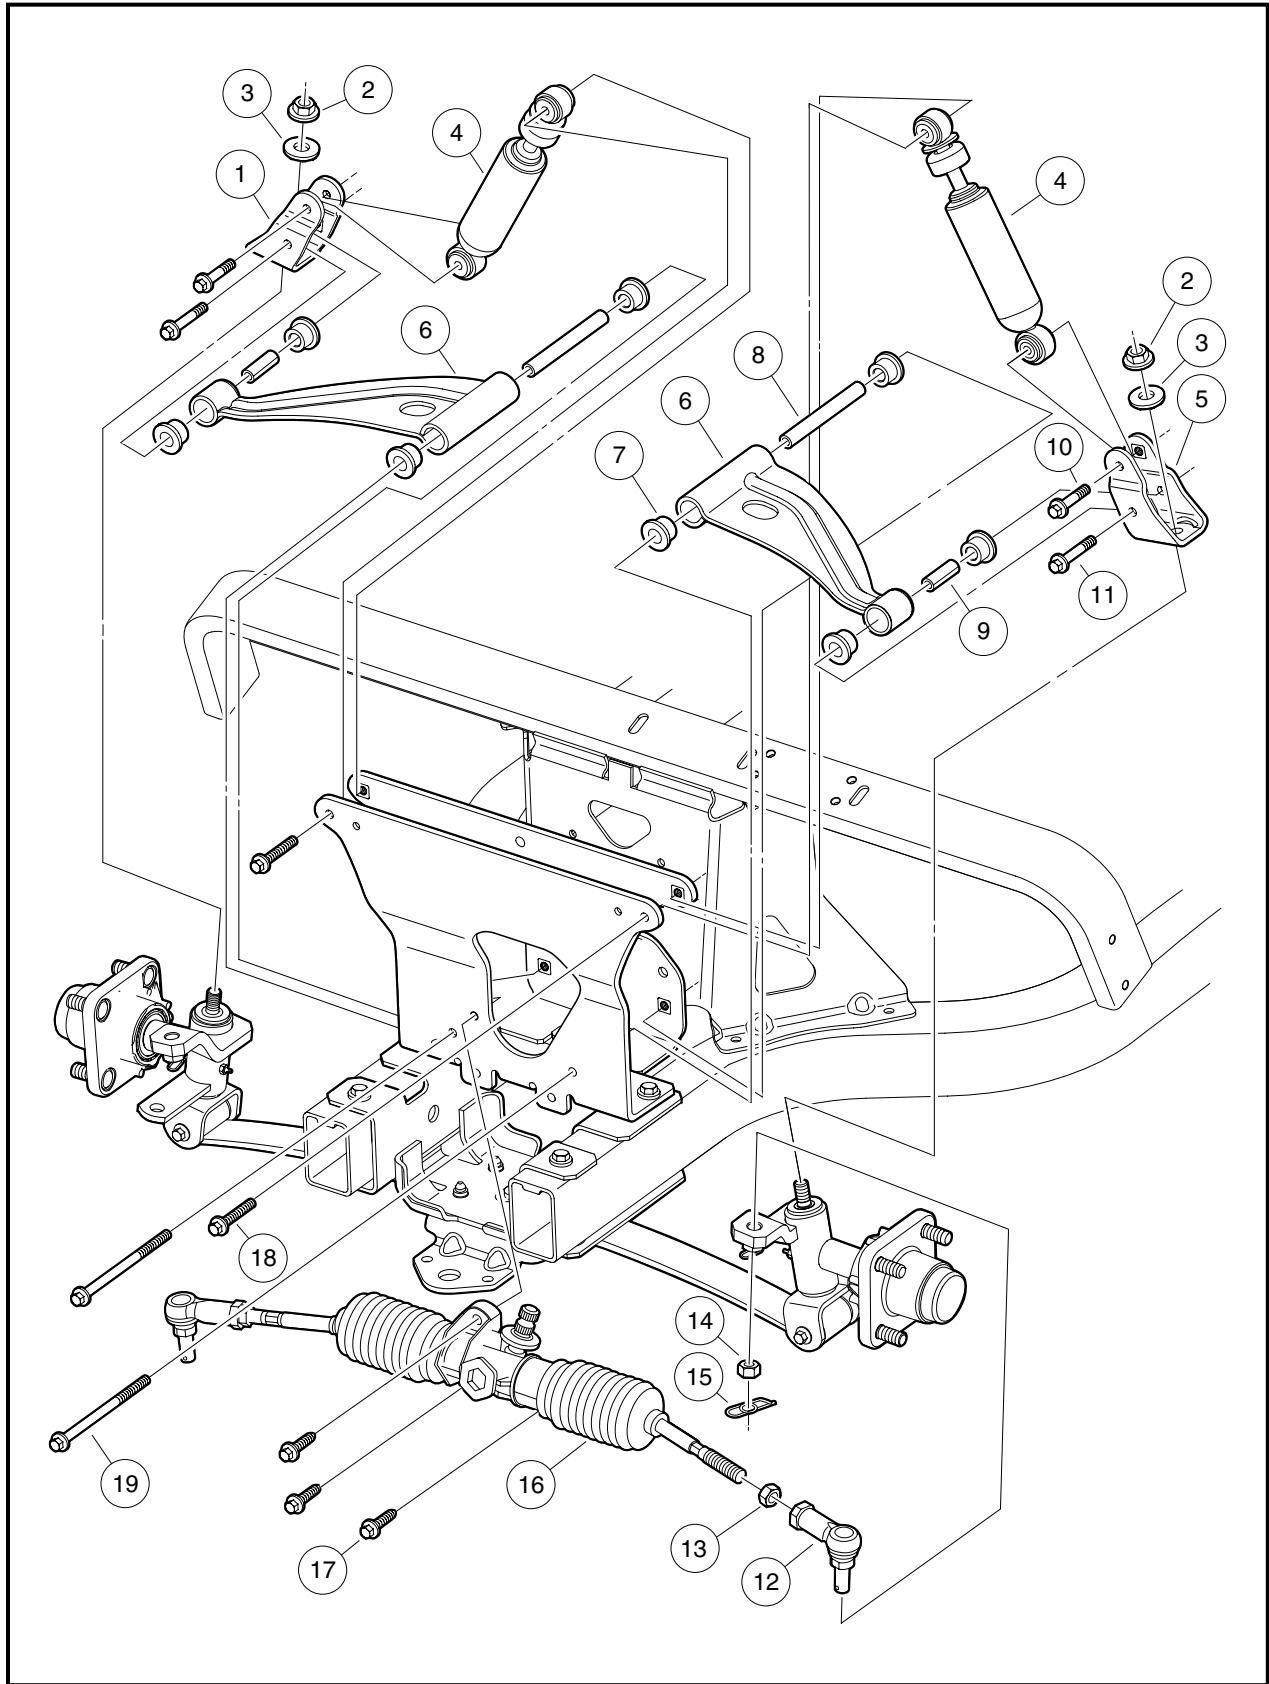

Figure 7-18 Upper Front Suspension Assembly
1. Loosen jam nuts (13) to allow later rotation of the tie rod ends (12) (**Figure 7-18, Page 7-15**).
2. Remove the retaining pins (15) and retaining nuts (14).
1. Thread tie rod ends (12) onto steering gear to a depth of 1/2 inch (12.5 mm) (**Figure 7-18, Page 7-15**).
2. Install tie rod ends (12) into the spindle tabs (23). Install the retaining nuts (14) and retaining pins (15) (**Figure 7-18, Page 7-15**).
2. Remove cotter pins (15) and nuts (14), then remove tie rod ends (12) from the tabs on the spindles **(Figure 7-18, Page 7-15).**
5. Attach the tie rod ends (12) to the spindle tabs, install and tighten the nuts (14) to 70 ft-lb (95 N·m). Install the retaining pins (15) (**Figure 7-18, Page 7-15**).
3. Remove bolts (17) and move rack and pinion to allow clearance for bolt (19) (**Figure 7-18, Page 7-15**).
5. Remove the control arm (6).
6. Inspect the bushings (7) and sleeves (8 and 9) in the control arm and replace them if necessary.
1. Install the control arm in reverse order of removal. Tighten the control arm bolts (11 and 19) to 20 ft-lb (27 N·m) (**Figure 7-18, Page 7-15**). Tighten three rack and pinion mounting bolts (17) to 22 ft-lb (30 N·m).
2. Remove the upper bolt (18) (**Figure 7-18, Page 7-15**).
3. Remove the lower bolt (10).